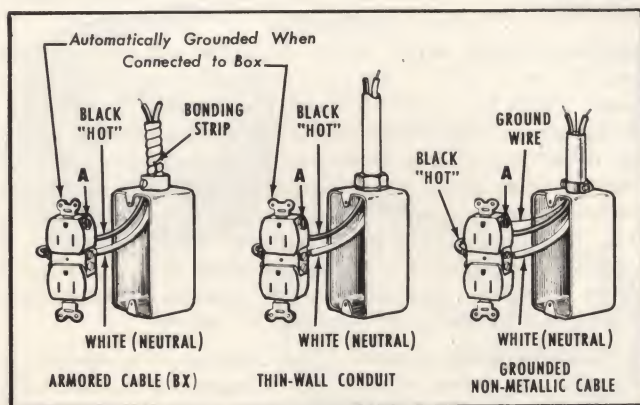

FIG. 97—GROUNDING OUTLET BOXES
Fig. 97 shows grounded outlets connected to grounded type cable, armored cable (BX) and conduit. These outlets are especially important when the user may stand on a damp basement or garage floor to operate laundry equipment and power tools, etc. This is also true for electrically powered mowers, because the operator stands on bare, and often damp ground.
For BX and thin-wall conduit installations, some local codes require an additional connection from the green-colored terminal screw "A" (Fig. 97) on the outlet to the metal box. Screw holes are provided in most metal boxes for this purpose. Use a piece of No. 18 ga. wire or heavier. (Check local code.)